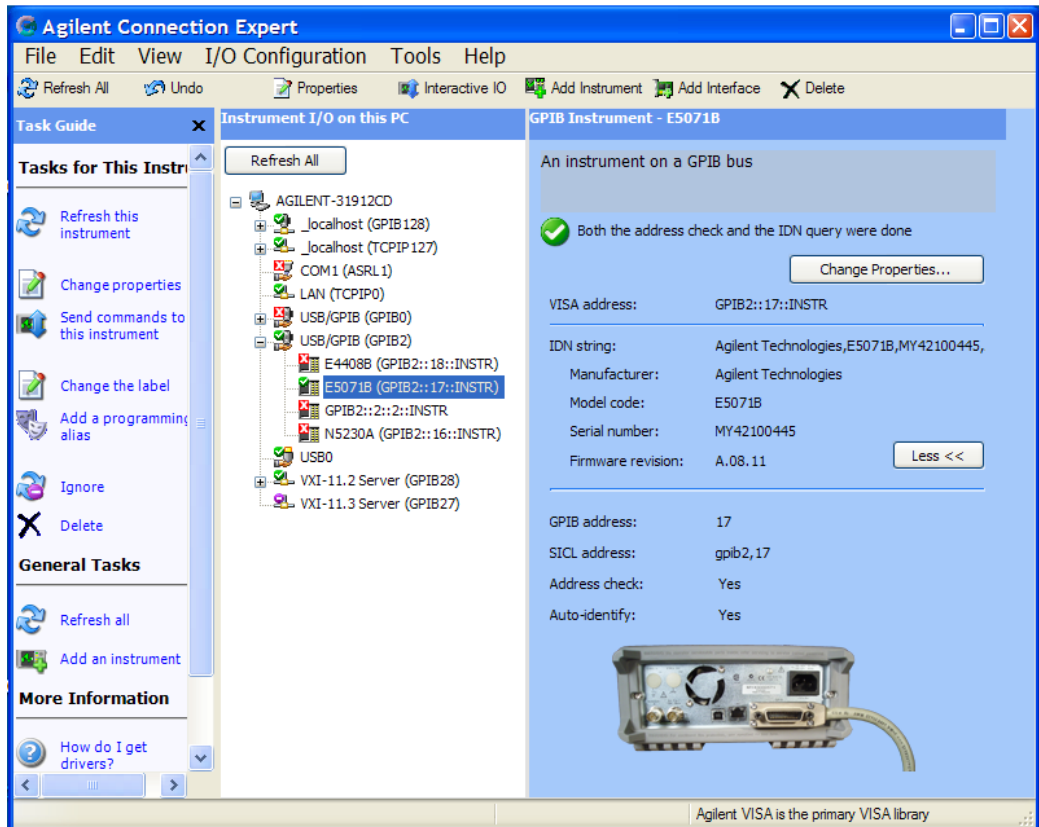

Figure 19 Agilent Connection Expert
- 8 Ensure that the application detects the spectrum analyzer connection to the oscilloscope. Else, click on the Connect... button in the Spectrum Analyzer External Instruments group. A pop-up box will appear where you can enter either the VISA/SICL address or the IP address. Enter the information and click the Verify button, followed by the Done button to close this box. The VISA/SICL address or the IP address can be obtained from the IO Control Connection Expert application, as shown in Figure 19.